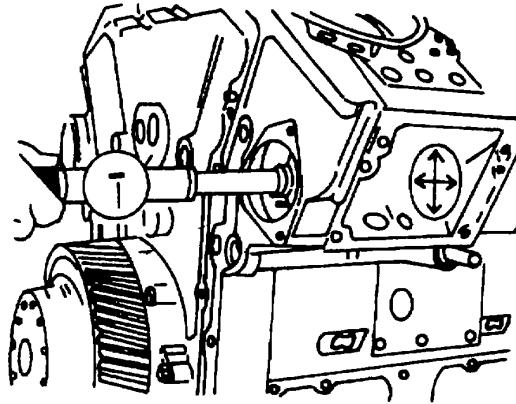

Figure 9-17. Measuring Camshaft Bushing Bore
- (5) Using an inside micrometer, or dial bore gage, measure the bore diameter of the bushings in both a vertical and horizontal plane (Figure 9-17).
- (6) Replace the bushings in accordance with steps b and c, below, if the maximum diameter is beyond the limits given in Table 1-4.